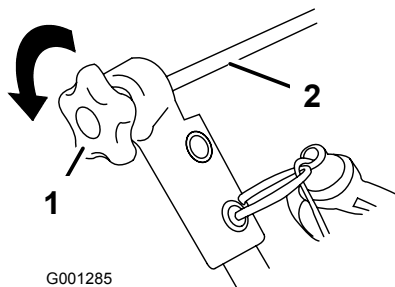

Figure 3
1. Remove the handle knob (Figure 3).
2. Remove the handle rod from the handle (Figure 3).